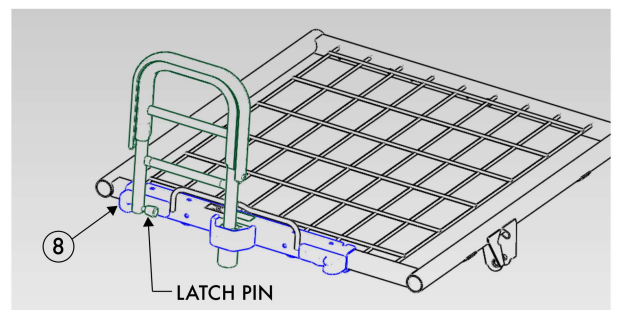

Figure 11
3. Lock the assist handle by engaging the latch pin into the latch (Item 8) (Figure 11).